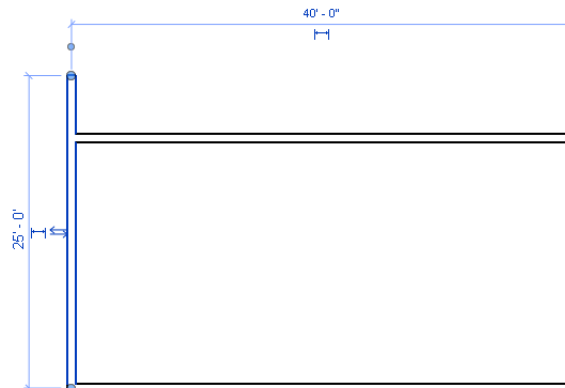

Figure 3-39 Using the drag control to modify the length of wall
1. Select the fourth wall segment to display its controls. The two blue dots at its two endpoints are the drag controls. Move the cursor near the upper dot; the color of the drag control symbol changes, as shown in Figure 3-39. Press and hold the left mouse button at this point and drag the cursor vertically downward and bring it close to the start point of the first wall segment. On doing so, the endpoint object snap is displayed at the intersection of two walls and the tooltip shows **Endpoint and Vertical**.